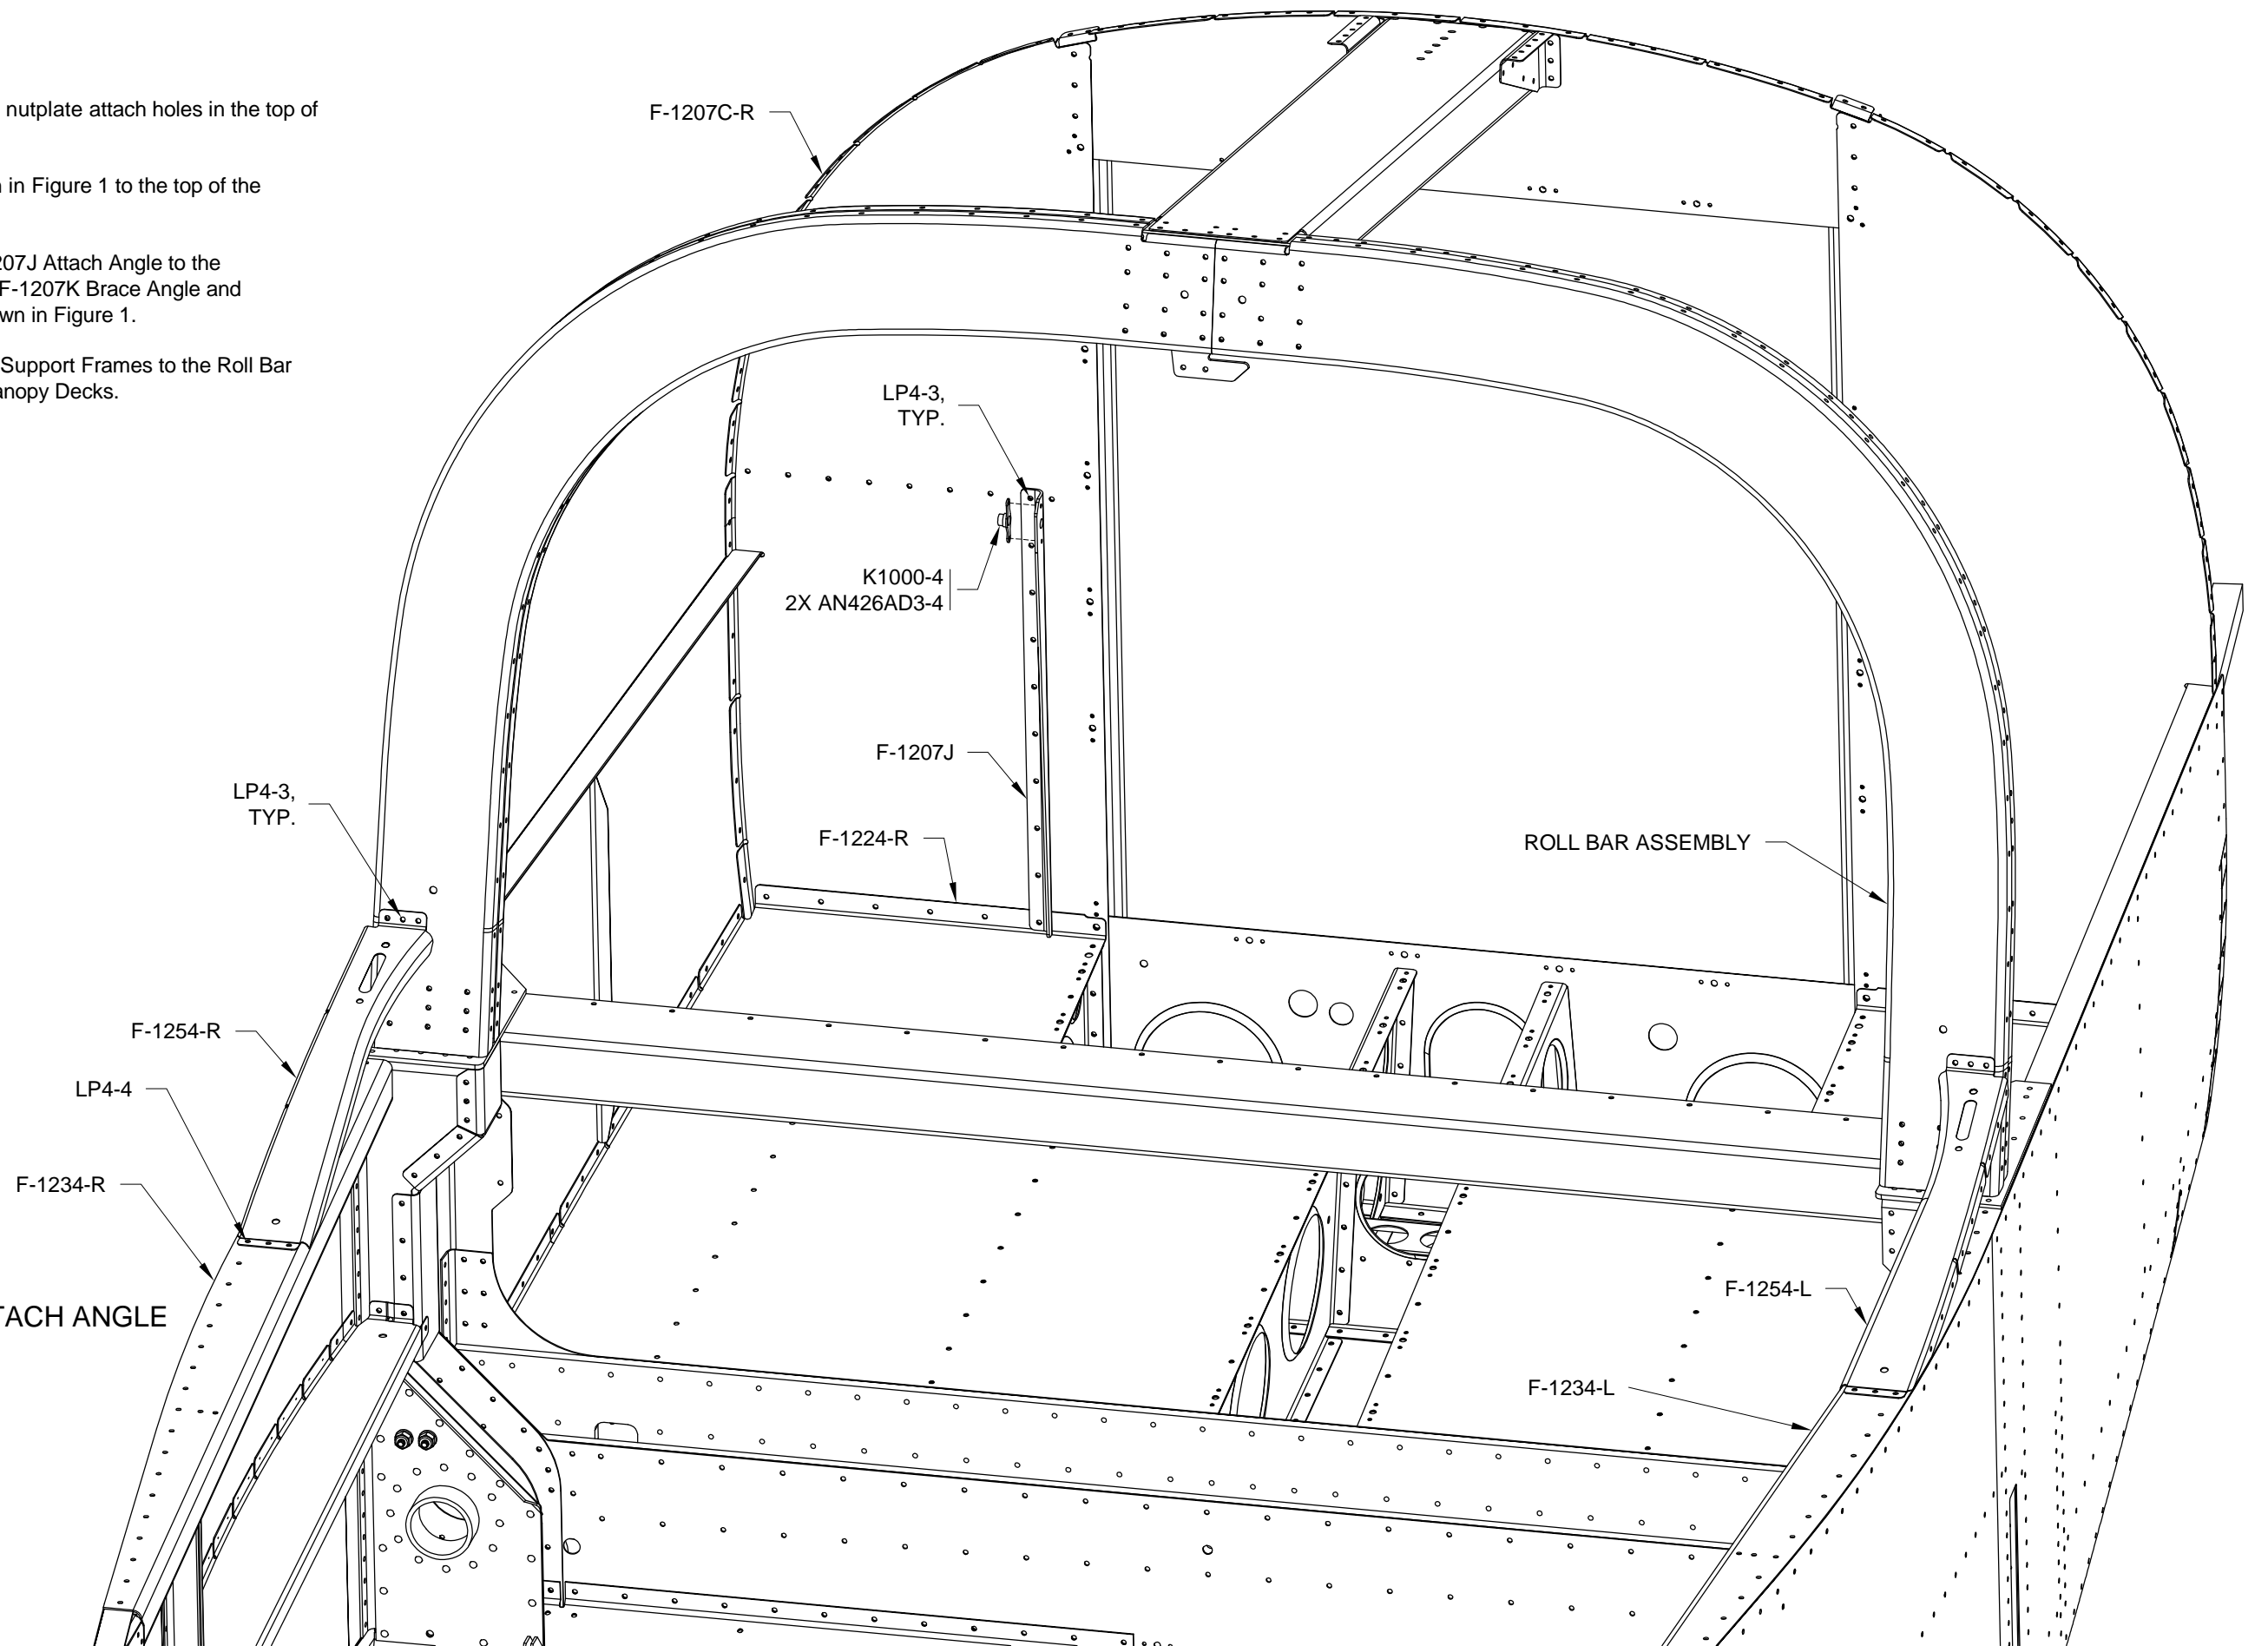

FIGURE 1: TANK ATTACH ANGLE
Step 2: Rivet the nutplate shown in Figure 1 to the top of the F-1207J Attach Angle.
Step 3: Cleco then rivet the F-1207J Attach Angle to the F-1207C-R Baggage Bulkhead, F-1207K Brace Angle and F-1224-R Baggage Floor as shown in Figure 1.